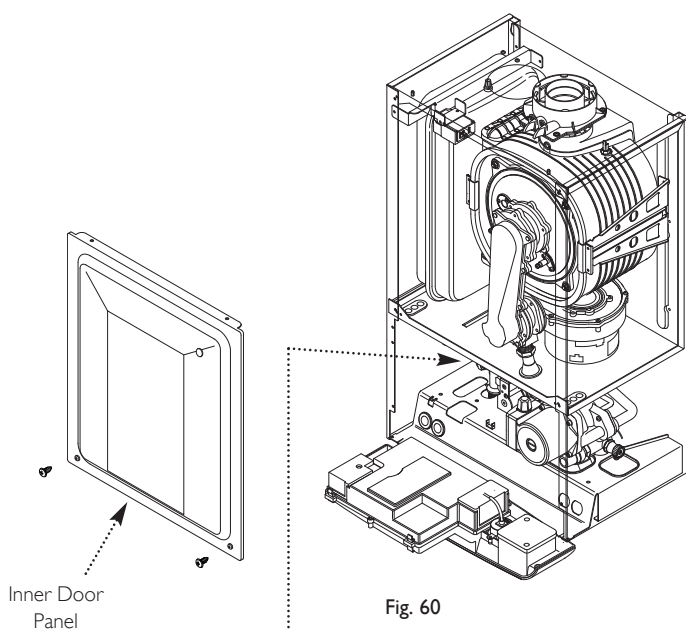

Fig. 60
4. Remove the screws securing the inner door panel. Lift the panel slightly to disengage it from the studs on top of the case (Fig. 60).